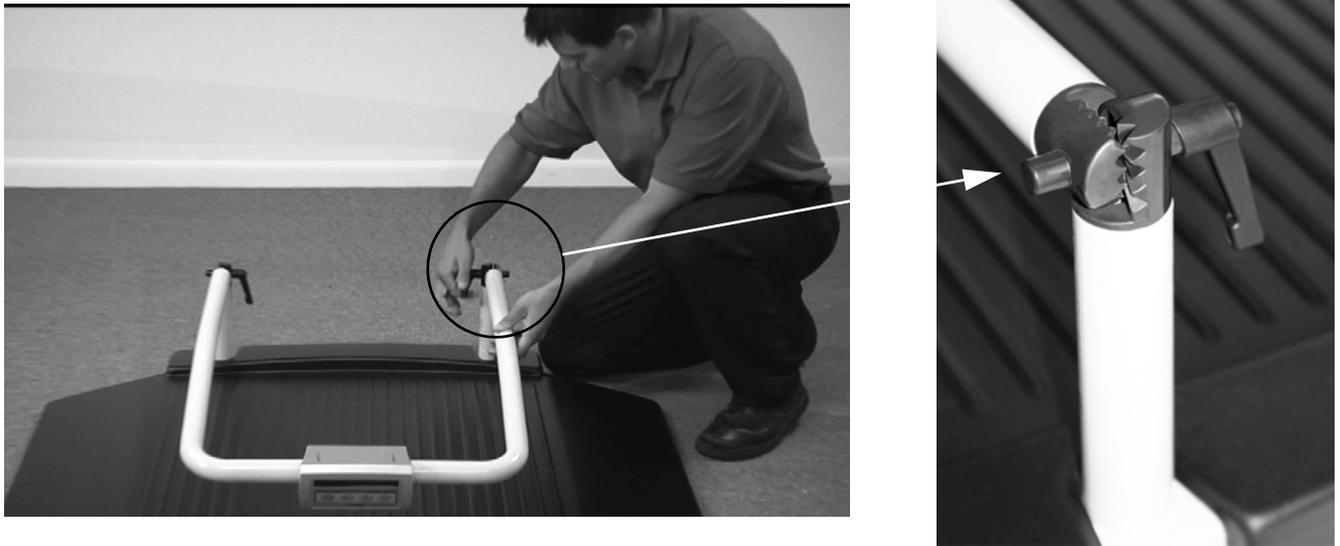
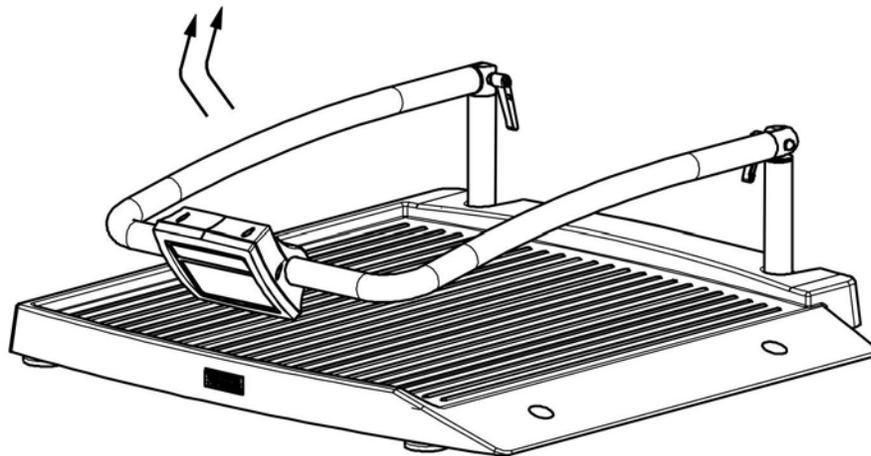

Figure 2-6. Loosen the Durable Hinges to Set Handles Upright
Figure 2-7. Set Scale Handles Upright
5. Loosen the handles (shown in Figure 2-6) and set upright as shown in Figure 2-7.